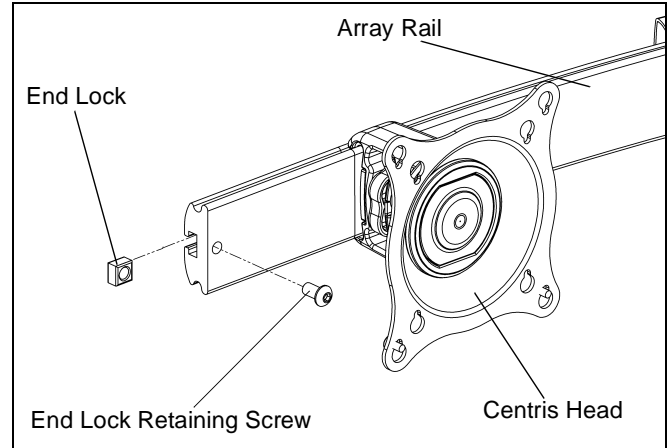

Figure 10
8. Install end locks into mounting rail using the 5/32" hex key (H). (See Figure 10)